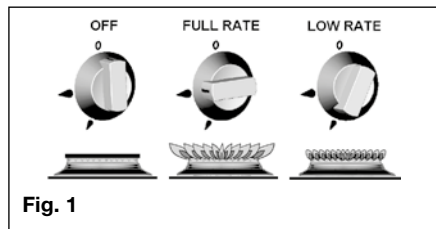

Fig. 1
3. To light: Push in the control knob and turn to full rate – see Fig.1. Hold a lighted match or taper to the burner and push the control knob in and hold. It is necessary to hold the knob depressed after the burner has ignited for approximately 10 - 15 seconds, to allow the thermocouple probe to reach temperature, before releasing the knob. Should the flame go out when the knob is released, the procedure should be repeated holding the knob depressed for slightly longer.
2. To light: Open door, push in the control knob and turn to full rate – see Fig 1 (page 119). Hold a lighted match or taper to the burner and push the control knob in and hold. The burner should ignite and the control knob should be held in for 10 -15 seconds before release.